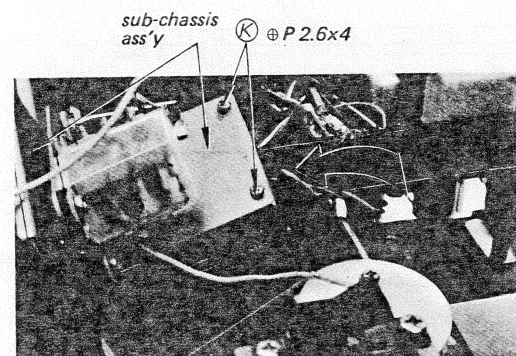
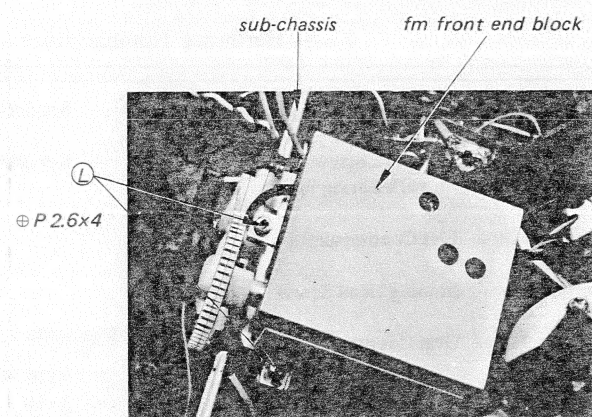

Fig. 2-15. Fm front end block removal
Fig. 2-16. Fm front end block removal
8. Lift up the sub-chassis ass'y as shown in Fig. 2-15.
9. Remove the four screws marked ④ in Fig. 2-15 and ⑤ in Fig. 2-16.
3. Set the front end block to the sub-chassis as shown in Fig. 2-16 and fix it with the four screws.
1. Take out the sub-chassis as described in procedure 2-6. (See Fig. 2-15.)